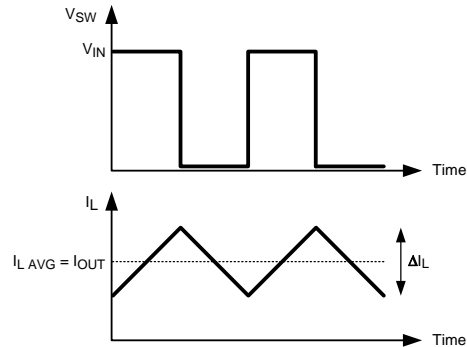

Figure 29. Switch and Inductor Current Waveforms
The inductor (L) used in the application will influence the ripple current and the efficiency of the system. The first selection criteria is to define a ripple current, ΔI_L . In a buck converter, it is typically selected to run between 20% to 30% of the maximum output current. Figure 29 shows the ripple current in a standard buck converter operating in continuous conduction mode. Larger ripple current will result in a smaller inductance value, which will lead to lower inductor series resistance, and improved efficiency. However, larger ripple current will also cause the device to operate in discontinuous conduction mode at a higher average output current.